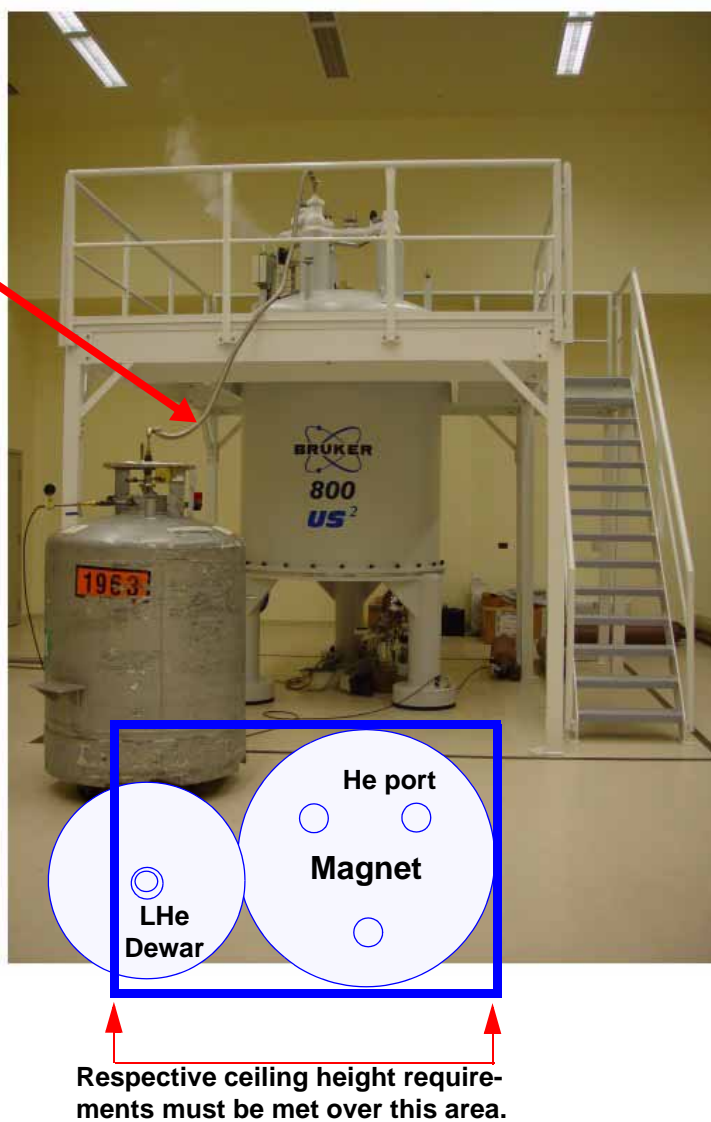

Figure 5.2. Helium Transfer Line Insertion
- The ceiling height requirements do not need to be met over the entire NMR room. Figure 5.2 illustrates that the height requirements need only be met immediately above the magnet, over an area to allow for assembly of the gantry (if applicable), and over an area to allow for insertion of the helium transfer line.